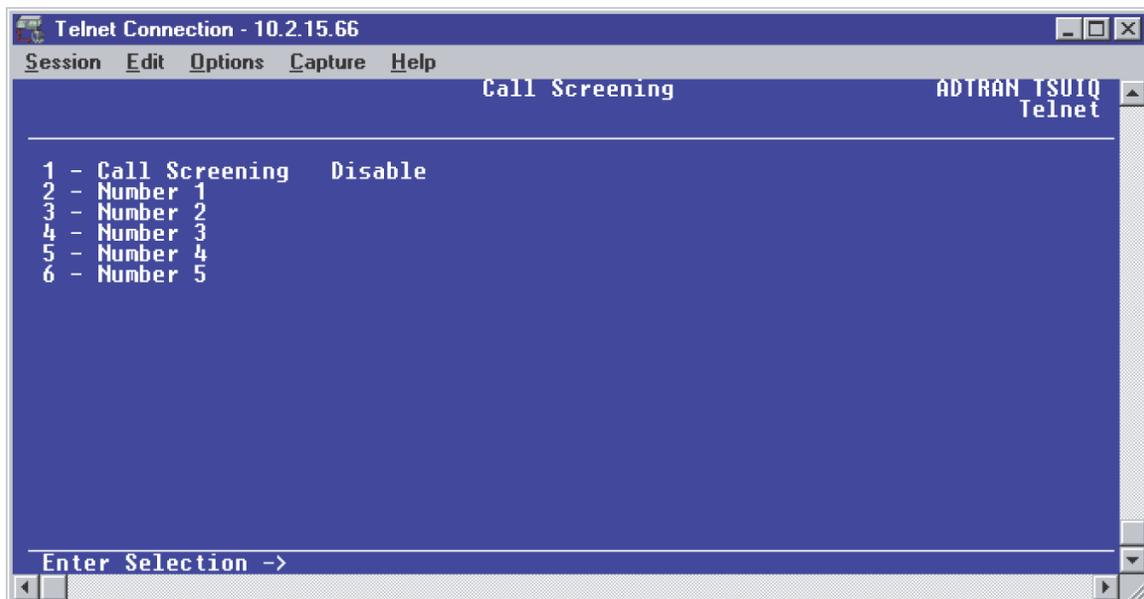

Figure 29. Call Screening Menu
1. Press <ESCAPE> once to get back to the **CONFIGURE DIAL BACKUP** screen shown in Figure 22. Select option 6, **CALL SCREENING** and press <ENTER>. The menu screen shown in Figure 29 is displayed. The default values for the parameters on this screen are shown.